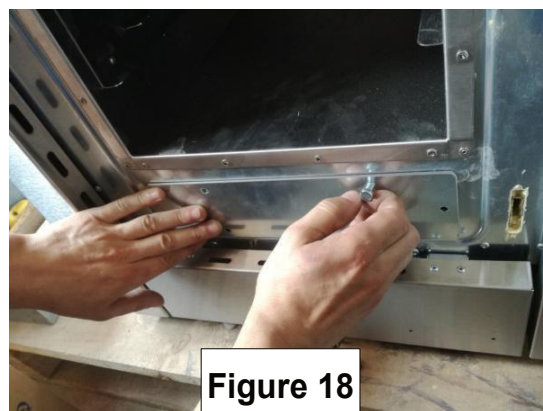

Figure 18
- if necessary, remove the lower decorative cover (5) by pulling it towards yourself,
- remove the cleaning hatch lid (9) by unscrewing the screws ⇒ *Figure 18*,